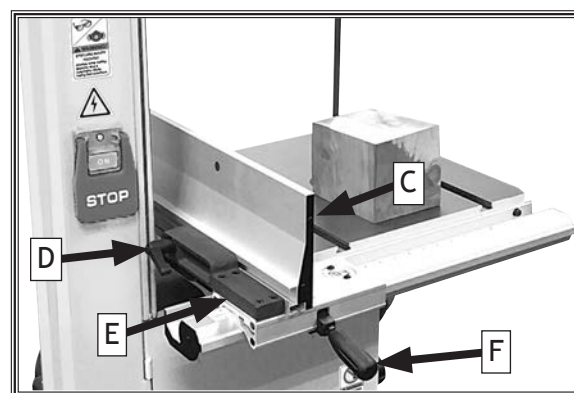

Figure 2. Fence mounted vertically.
- C. **Fence:** Used for ripping or resawing. Distance from blade determines width of cut. Can be used in horizontal position (as shown in **Figure 1**) for thin workpieces or in vertical position (as shown in **Figure 2**) for normal workpieces.